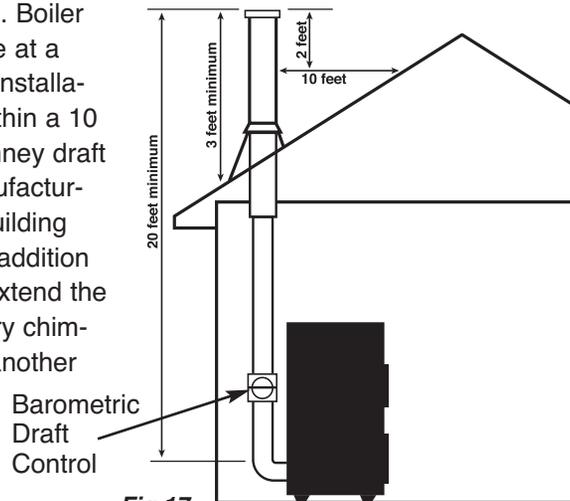

Fig. 17
- 19 - Install a barometric damper in your chimney system. With boiler operating at normal temperature adjust barometric damper so that you have about a negative .05 or negative .06 inches of water column in your single wall chimney connector approx. 12" below barometric damper. See page 3, Fig. 17.